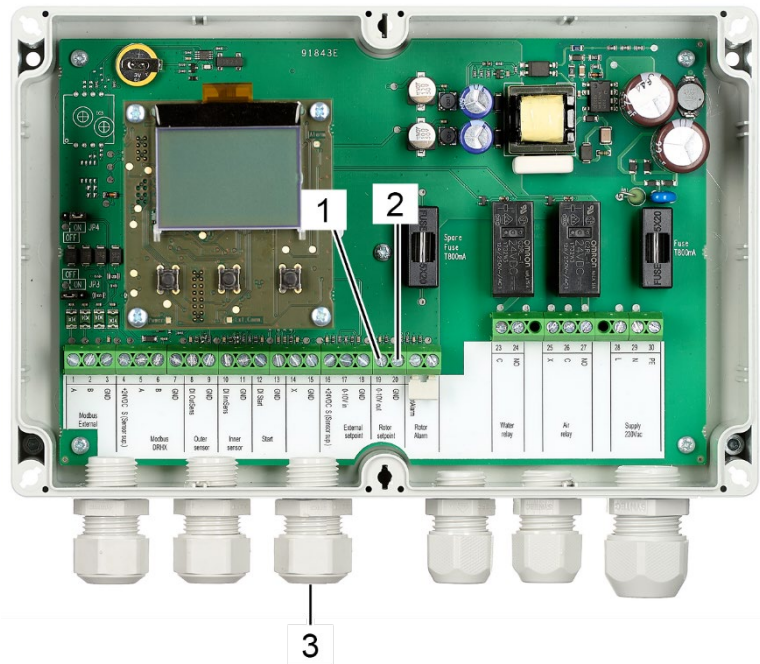

Fig. 88: Terminals internal rotor speed control signal to the rotor control of the rotary heat exchanger
17. Insert the wires of the internal rotor speed control signal through the cable socket (Fig. 88/3).
18. Connect the 0-10 V output signal wire to terminal 19 (Fig. 88/1, 0-10V out).
19. Connect the ground wire of the 0-10V output signal to terminal 20 (Fig. 88/2, GND).